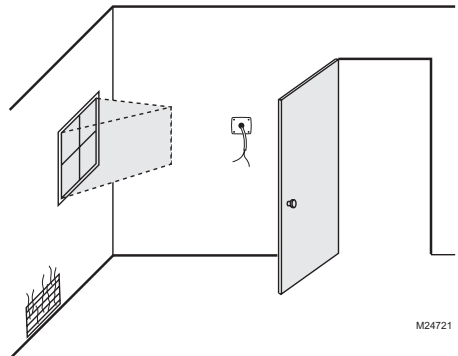

**Fig. 6. Choose a location in the living area.**
**NOTE:** Select a location clear of drafts or excessive humidity. Avoid mounting near doors or windows, or in bathrooms or kitchens. See Fig. 6.
- Using wire nuts, connect the low-voltage wire to the leads on the H8908 humidistat. See Fig. 6–19 for different wiring configurations.